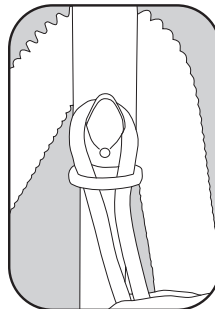

Fig. 4
2. Pull down on the power cord to remove any slack (Fig. 4).